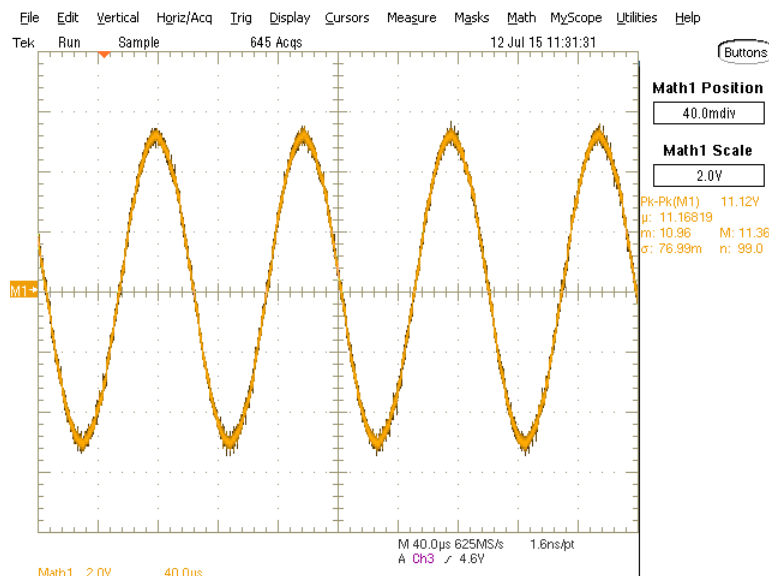

Figure 18. OE1-OE2 Differential Output from the Exciter
- Step 4. Connect the scope probe to OE1 and compare this waveform to the one shown in Figure 18. In this waveform, the peak-to-peak voltage of the differential voltage output of the exciter is 11.12 V_{PP}.